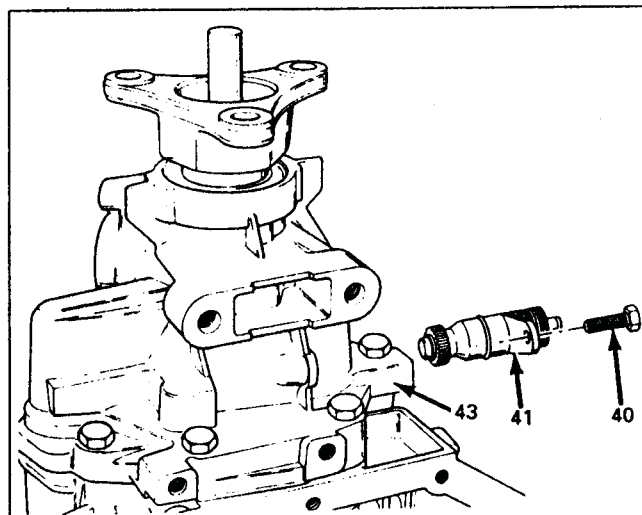

Figure 22
4. Remove the 10mm bolt retaining the speed driven gear assembly, and remove the assembly from extension housing (See Figure 22).